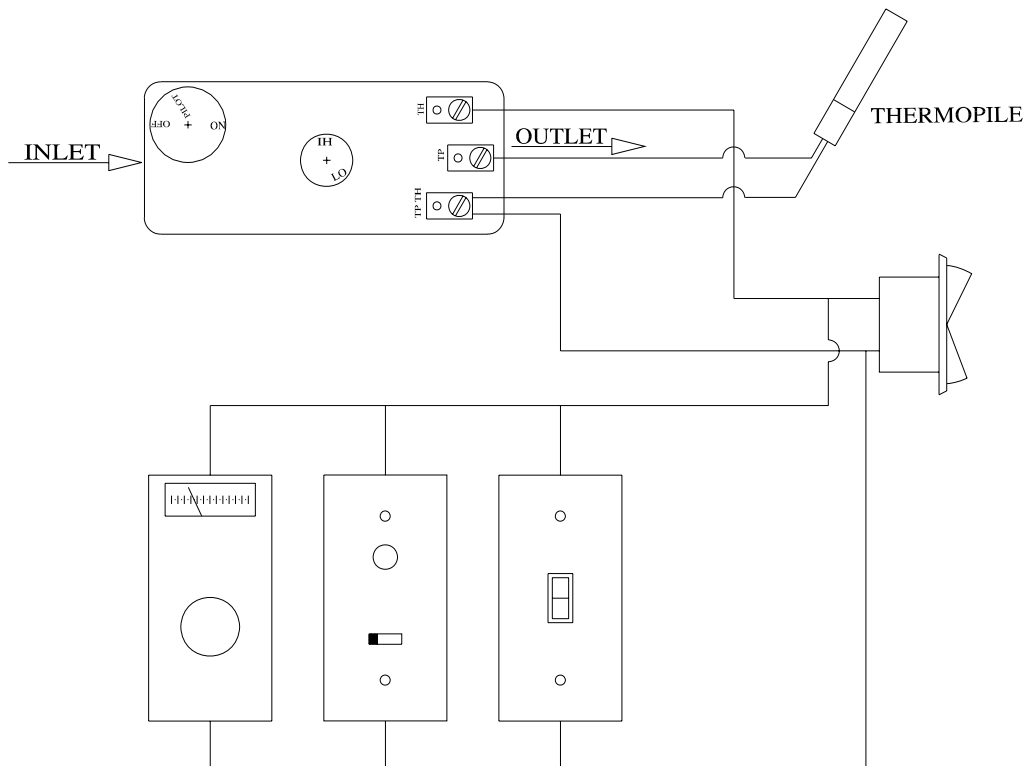

Figure 5
1. Mount the thermostat or wall switch in the desired location and run "two conductor thermostat wire" to the burner control switch (Figure 5). To bypass the burner control switch, run the wires directly to the gas valve (Figure 6).